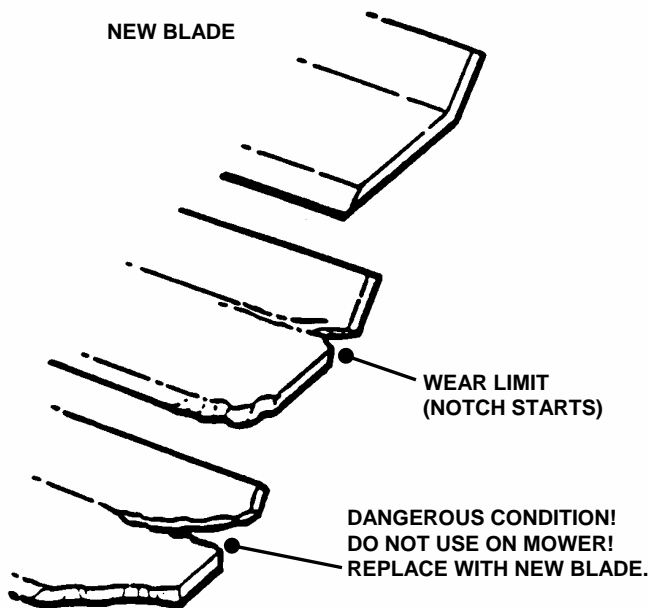

FIGURE 5.13
1. Inspect blade frequently for signs of excessive wear or damage. Replace blade when it reaches the wear limit. See Figure 5.13.
2. Inspect condition of blade. See Figure 5.13.